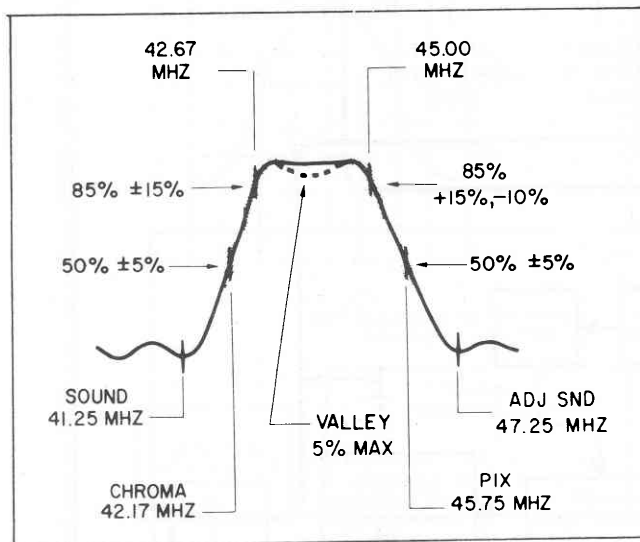

Fig. 30. Typical IF response curve, showing tolerance ranges of response levels.
7. Select the marker generator frequencies required to check the critical frequencies of interest (see Fig. 30.) A sweep and marker generator capable of displaying all the markers simultaneously, such as the B & K-Precision Model 415, is a big advantage.